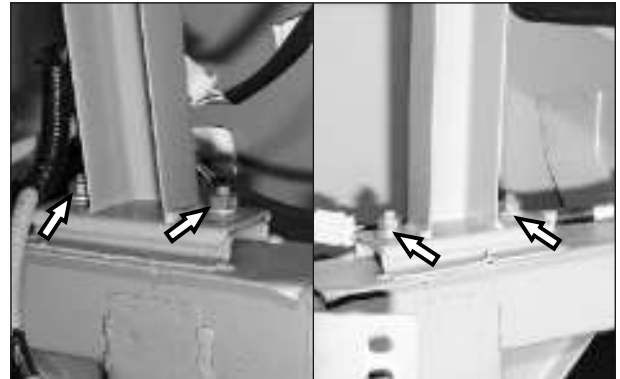

Fig. 4.2
- Loosen and remove 4 nos. Hexagonal nut M8 along with 4 nos. Punched washer and 4 nos. Spring washer from cross member camp cabin support rear mounting. (Fig. 4.2)